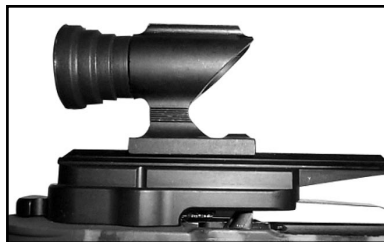

Fig 7
- Slide onto the attached dovetail with the bell portion facing towards you and tighten. See *Figure 7*